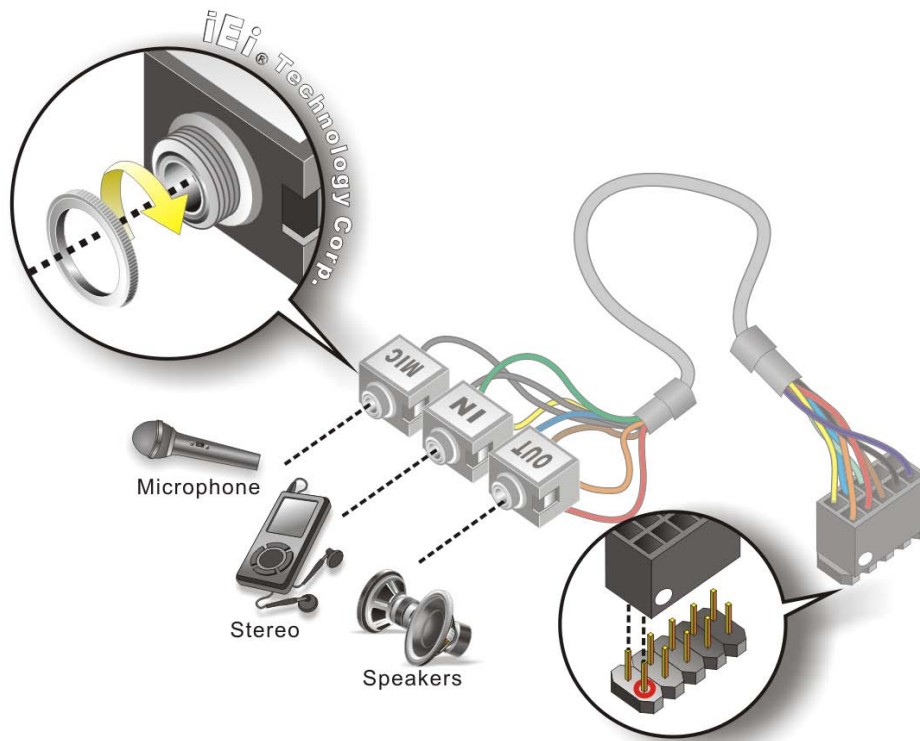

Figure 4-16: Audio Kit Cable Connection
Step 2: Insert the cable connector. Insert the connector into the serial port box header. See Figure 4-16. A key on the front of the cable connectors ensures the connector can only be installed in one direction.